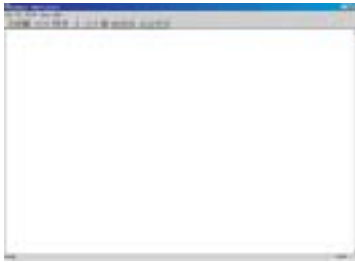

Fig. 12
- Click icon as shown in Fig. 12 from the tool bar to bring up the Channels "Configuration Setup" windows as shown in Fig. 13.